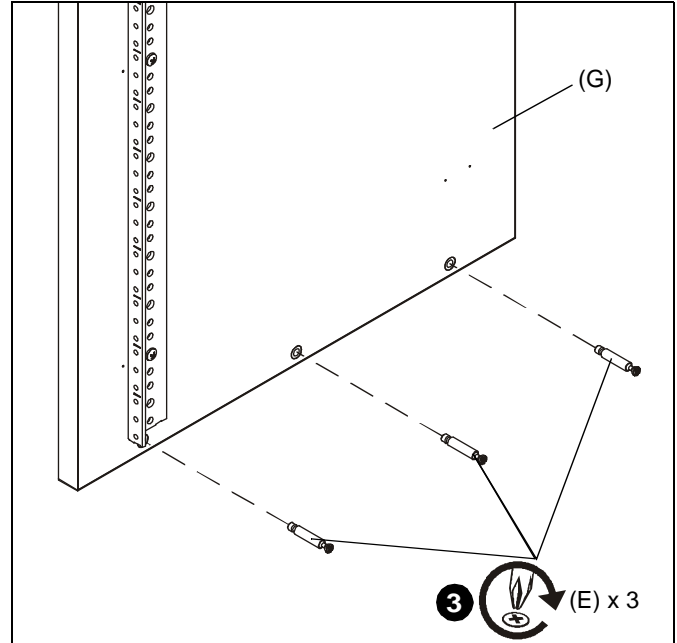

Figure 3
3. Add three connecting bolts (E) to lower inside of each side panel (G). (See Figure 3)